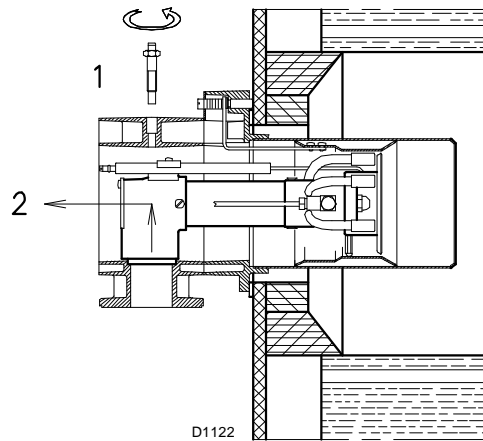

Fig. 12
- Remove screw 1)(Fig. 12) and extract the internal part 2);